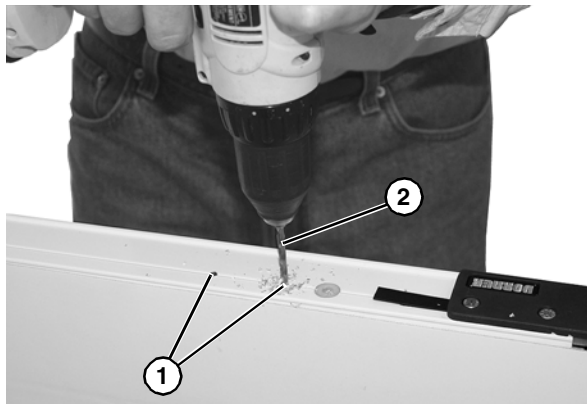

Figure 19
2. Drill the hole locations (**Figure 19, item 1**) with a 3/16" drill bit (**Figure 19, item 2**).